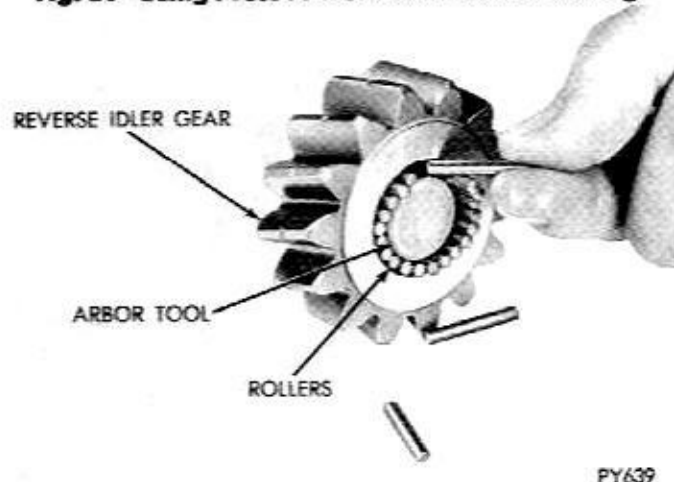

Fig. 32—Reverse Idler Gear—Roller and Arbor Assembly
(27) Place assembly arbor, Tool C-464 into idler gear along with 22 greased rollers (Fig. 32).
(28) Position reverse idler thrust washers in case with grease to retain them.